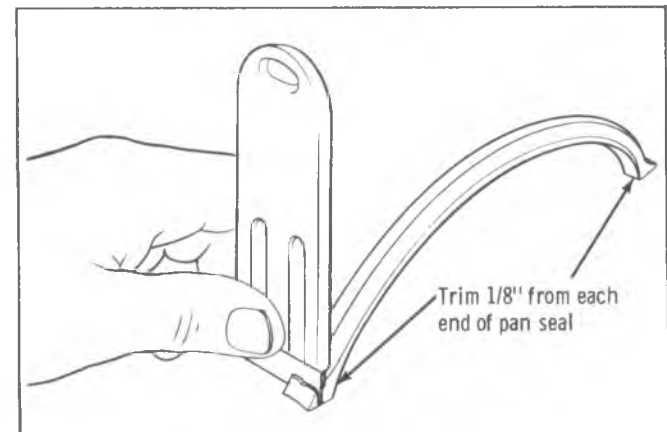

Fig. E-75—Trimming Pan Seals
4. Trim about 1/8" from each end of new front pan seal, using a sharp tool as shown in Fig. E-75.